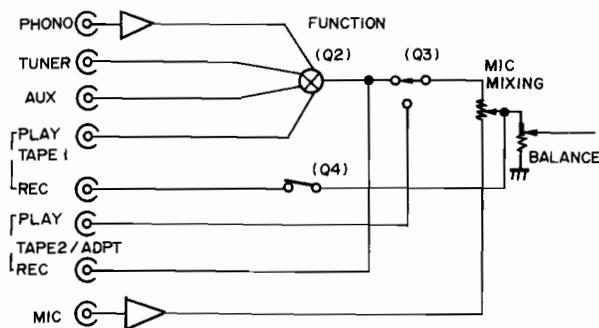
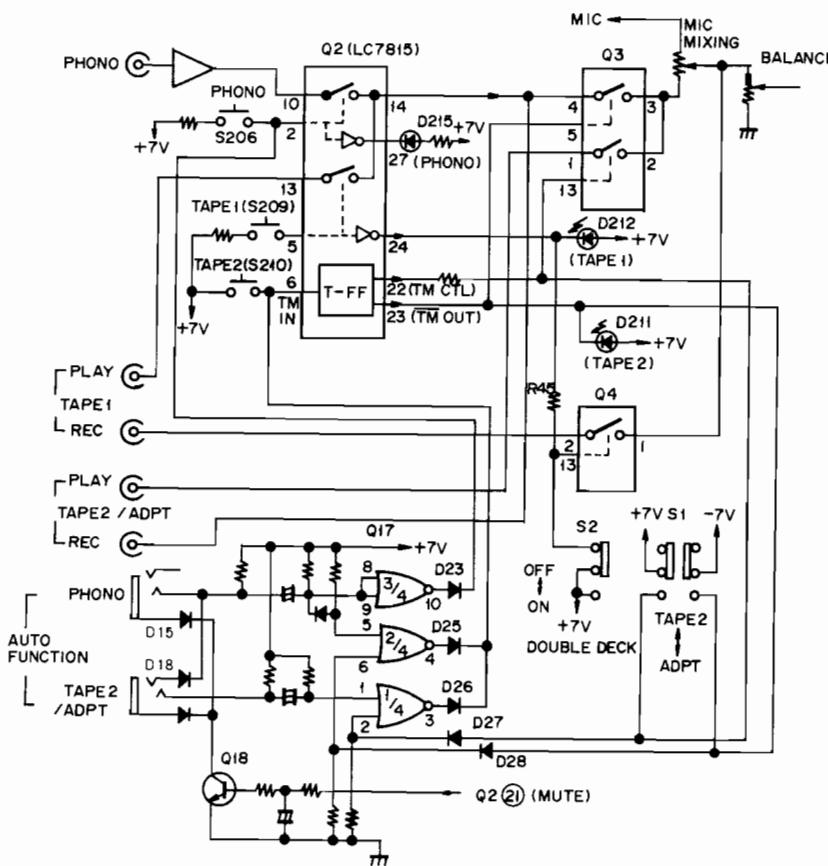

Fig. 8-4 Function Block Diagram
Fig. 8-6 Function Switching
Function selection is summarized in Fig. 8-4 and Fig. 8-6. PHONO, TUNER, AUX, and TAPE1 are switched by Q2 (LC7815). The Q3 analog switch is equivalent to a tape monitor switch for TAPE2, and is used in control of the tape monitor function. The Q4 analog switch is equivalent to the TAPE1 tape monitor switch, and is activated during recording mode.
Manual Operation (see Fig. 8-6)
■ TAPE 2 switch (S210) operation (see Fig. 8-6)
■ TAPE 2/ADPT switch set to "ADPT" position (see Fig. 8-6)